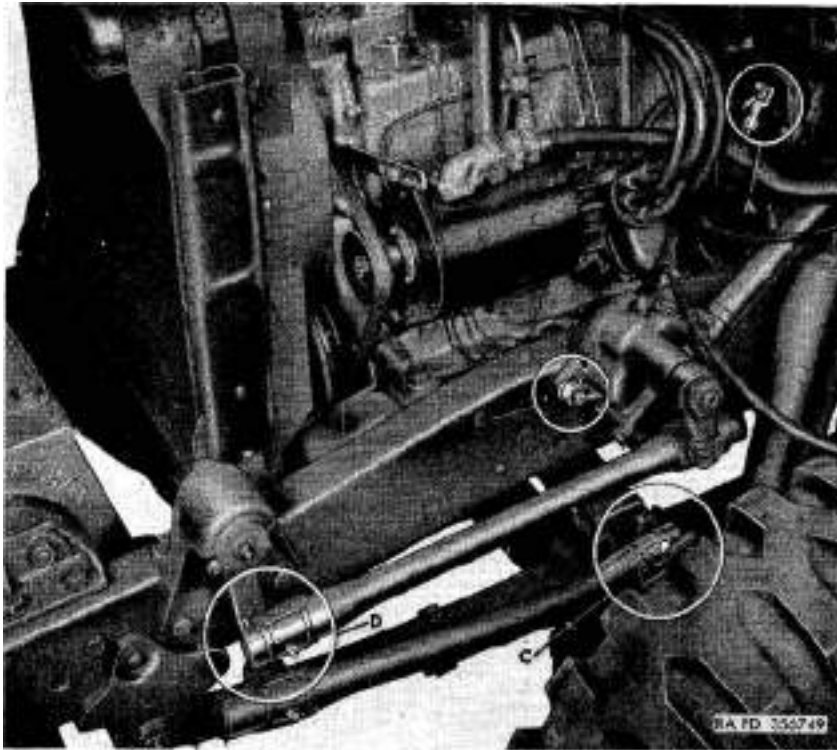

Figure 16. Steering gear and drag link disconnect points.
- (4) Disconnect pitman-arm-to-idler-arm drag link assembly at steering idler arm (D, *fig. 16*).
- (5) Disconnect steering gear housing at frame (three cap screws, plain washers, lock washers, and nuts) (B, *fig. 16*). Remove steering gear assembly from front end of cab.
- (7) Disconnect cables from starter switch terminal stud (A, *fig. 16*).
- (8) Disconnect slave receptacle ground cable at left running board front hanger (one cap screw, three lock washers, and nut).
- (9) Disconnect speedometer cable at transfer and remove cable from frame side rail clips.
- (10) Disconnect water temperature gage cable at water temperature gage sending unit, rear of cylinder head.
- (1) Disconnect idler-arm-to-steering-arm drag link assembly (C, fig. 16) at steering arm on front axle,